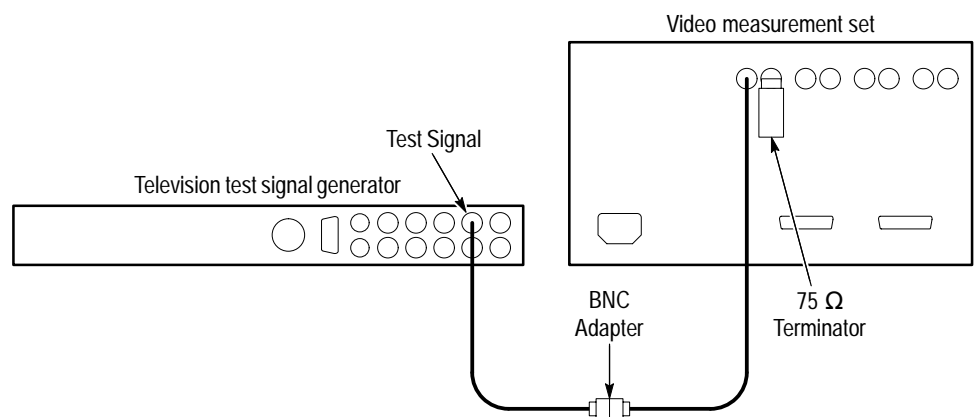

Figure 5–6: Setting up for pulse-to-bar measurement
1. Use two 75 Ω coaxial cables, joined with a BNC female-to-female adaptor to connect the test signal generator (TSG) to the video measurement set Ch A Input. Terminate the remaining side of the Ch A loop-through input with a 50 Ω end-line terminator. Select the NTC7 Composite test signal from the TSG. See Figure 5–6.